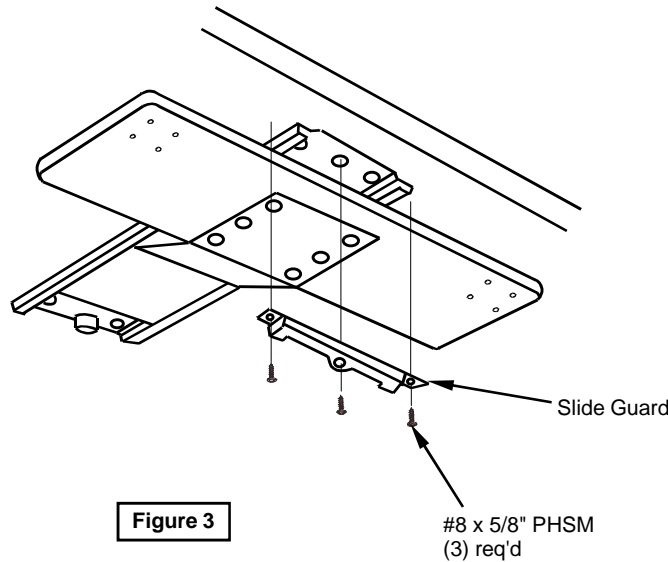

Figure 3
- B. Using (3) #8 x 5/8" PHSM screws, attach the slide guard to the front of the slide. **Figure 3.**